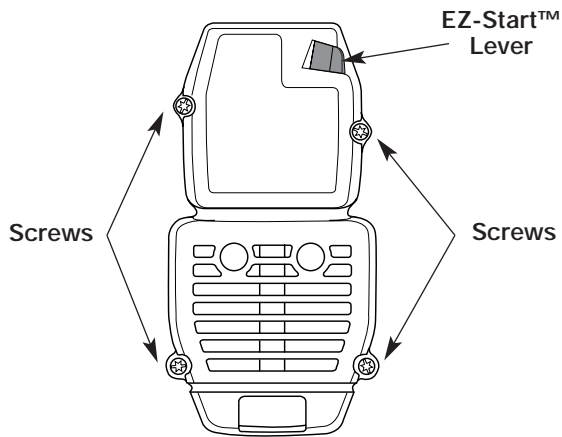

Fig. 34
1. Remove the four (4) screws securing the air filter/muffler cover (Fig. 34). Use a flat blade or T20 Torx bit screwdriver.
2. Insert the four (4) screws into the holes in the air filter/muffler cover (Fig. 34) and tighten. **Do not over tighten.**